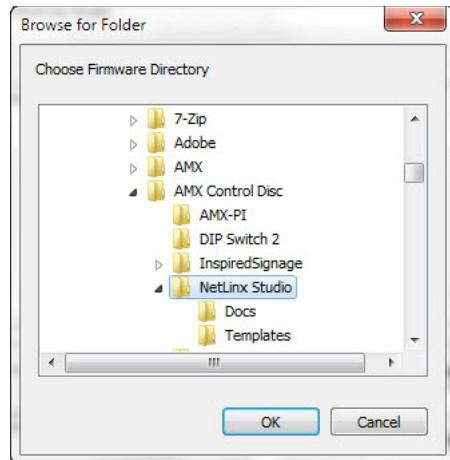

FIG. 34 Browse for Folder window
- Select the appropriate Kit file from within the *Browse for Folder* window (FIG. 34).